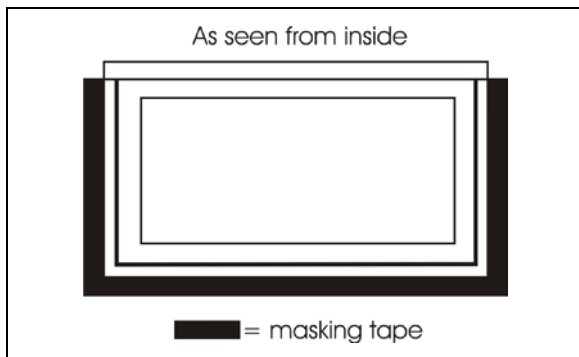

FIGURE 63: MASKING TAPE APPLICATION
- Place masking tape on the inside of the frame as per FIGURE 63